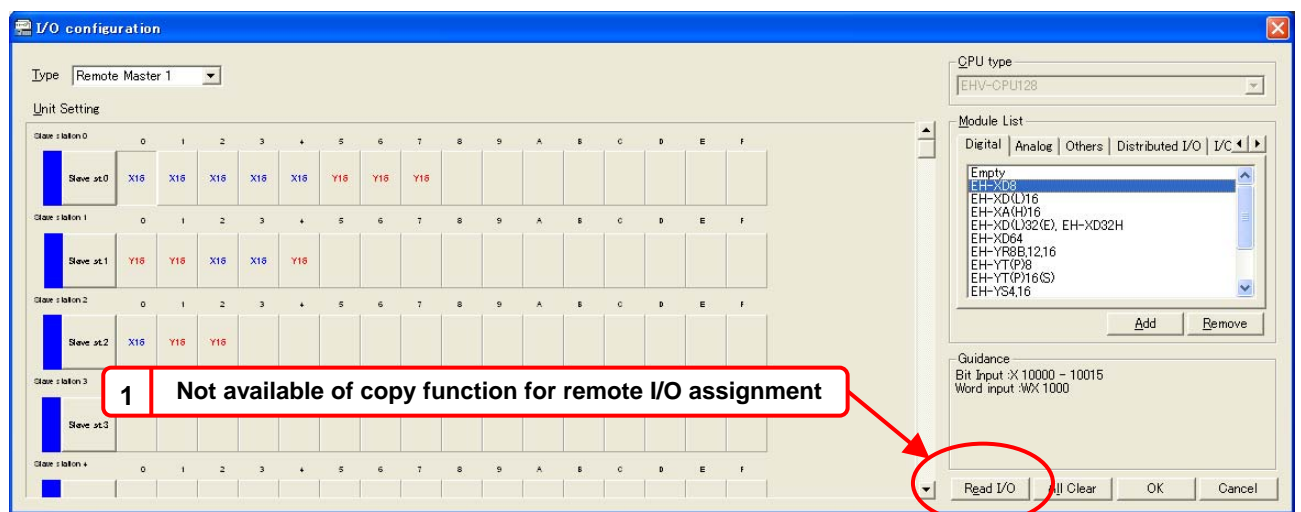

Figure 4.3.5 I/O assignment example of remote slave (Compact remote2 at compatible mode)
- 1) Master module (EH-TRME2) has remote I/O area of 64 channels (0 to 3F). Each channels is assigned from slot 0 to A in turn on remote slave bases according to remote I/O assignment as Figure 4.3.5.
- 2) Each channel consists from input area of 16 bits and output area of 16 bits. In the case of I/O assignment “REMOTE2”, either of input area or output area in one channel is used by I/O assignment on remote slave bases as Figure 4.3.5.
- 11) Set I/O assignment with programming software to CPU module. Set I/O assignment for all slots one by one as Figure 4.3.5 because compact remote2 at compatible mode doesn't support copy function of I/O assignment from mounted modules. In the case of normal mode, EH-TRME2 supports the copy function of I/O assignment.